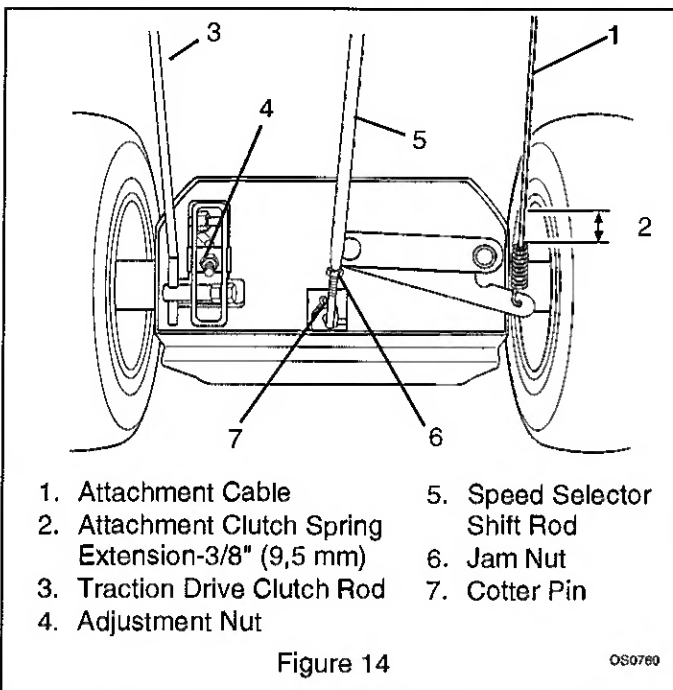
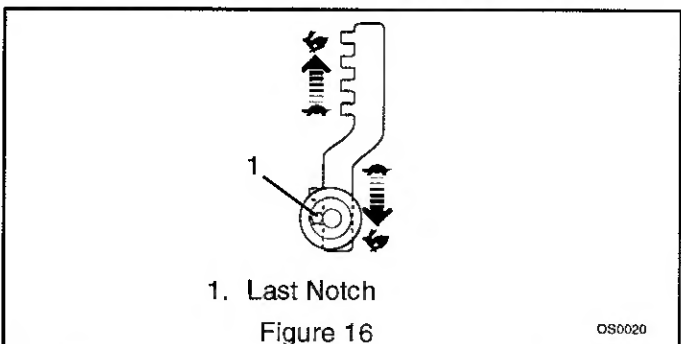

Figure 14
Figure 16
With traction clutch disengaged turn wheels while tightening adjustment nut (Figure 14), at clutch yoke, until wheels begin to drag. Engage and release traction clutch to align clutch linkage. Repeat as necessary. When wheel drag is obtained with linkage aligned, turn nut back three turns. Wheels will then turn freely.
2. Remove cotter pin (Figure 14) and pull shift rod out of chassis until it stops, put speed selector lever into reverse panel notch. Two notches are available, place in last notch (Figure 16).
4. Tighten jam nut (Figure 14).